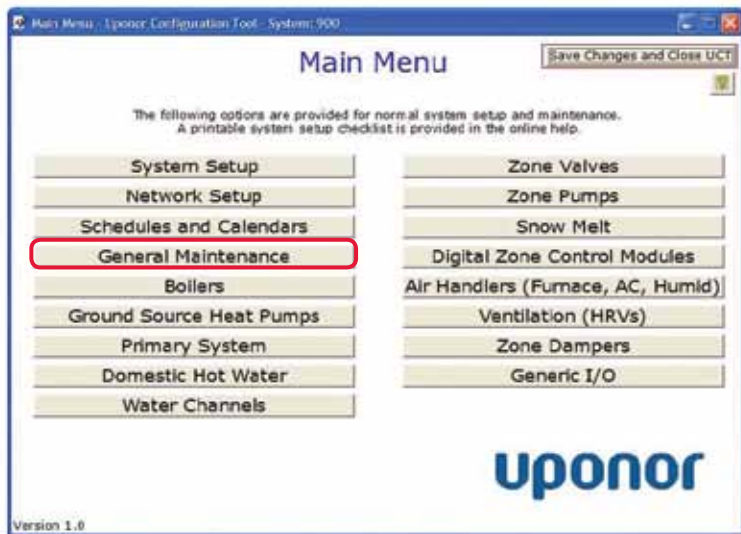
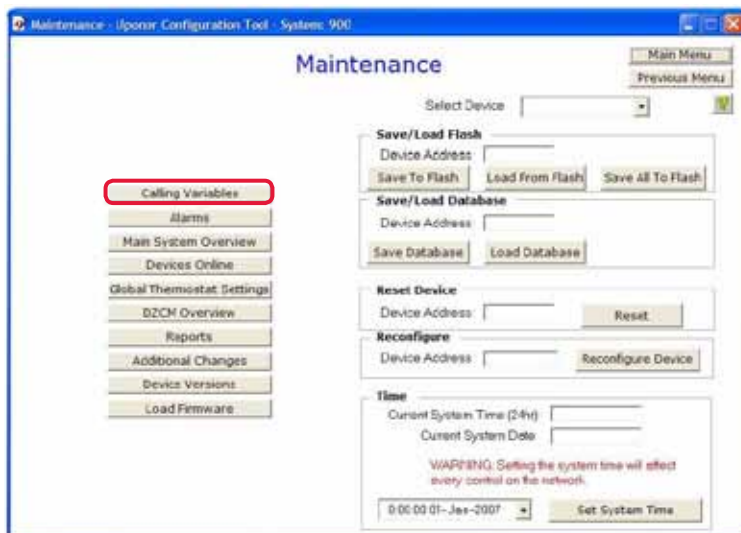

Figure 4.1-4: Main Menu Screen
Figure 4.1-5: Maintenance Screen
1. From the **Main Menu**, click the **General Maintenance** button shown in **Figure 4.1-4**. This displays the Maintenance screen shown in **Figure 4.1-5**.